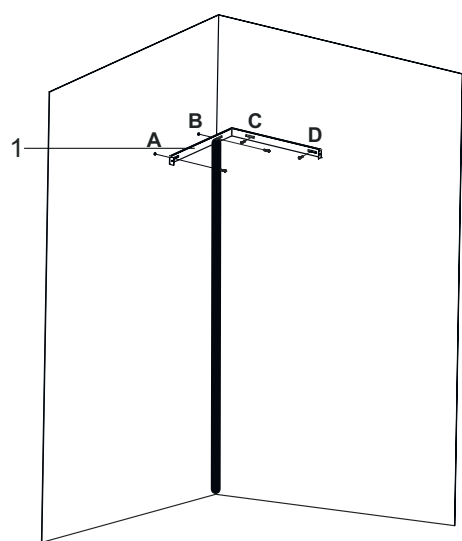

Fig. 15
- Drill the A,B,C,D points with Ø6 mm drill (Fig. 15).